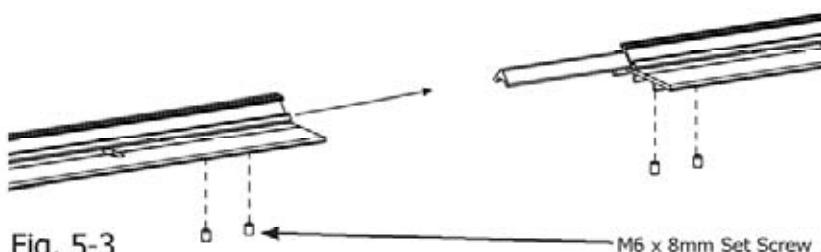

Fig. 5-3
**5-2:** Insert the Track Coupler into the Track Support end leaving approximately half of the coupler exposed. (Fig. 5-2) Insert and fasten M6 x 8mm Set Screws into the Track Support end using a 3mm Allen Wrench. (Fig. 5-3)
**5-3:** Slide a Track Support end onto the coupled back track assembly and fasten M6 x 8mm Set Screws with a 3mm Allen Wrench to complete one 10 ft Track Support. (Fig. 5-3)